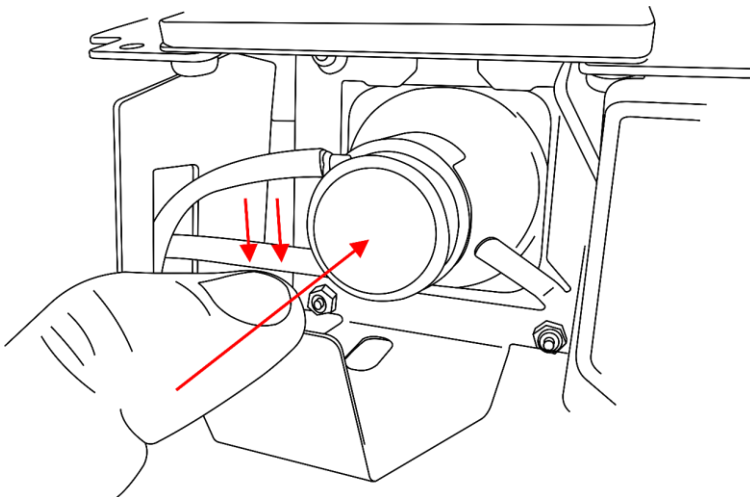

Fig. 05
- 06) Using some force, insert the new lamp into the housing (fig. 05).